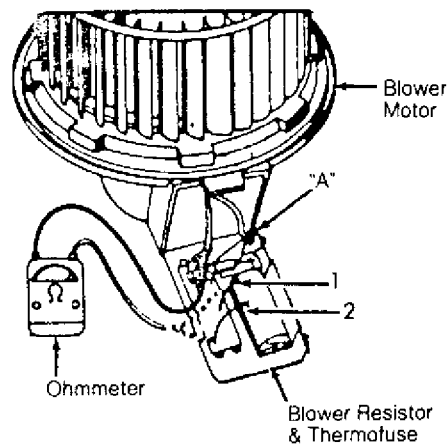

Fig. 8: Testing Blower Motor (Golf & Jetta)
2) Check resistance between terminals "A" and No. 1. See Fig. 8. Resistance reading should be 3.3 ohms. If reading is as specified, check resistance between terminals "A" and No. 2.